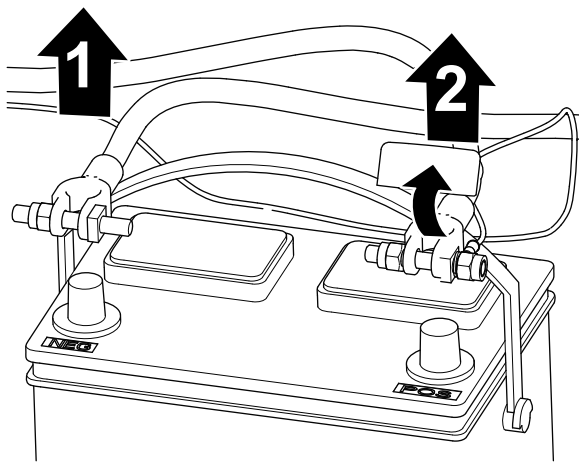

Figure 3
2. Remove the negative battery cable from the battery post (Figure 3).
3. Remove the positive battery cable from the battery post (Figure 3).